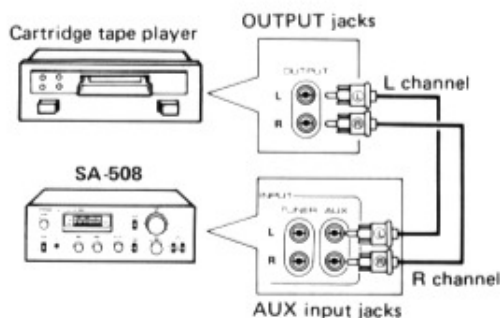

Fig. 5
**AUX JACKS CONNECTIONS (Fig. 5)**